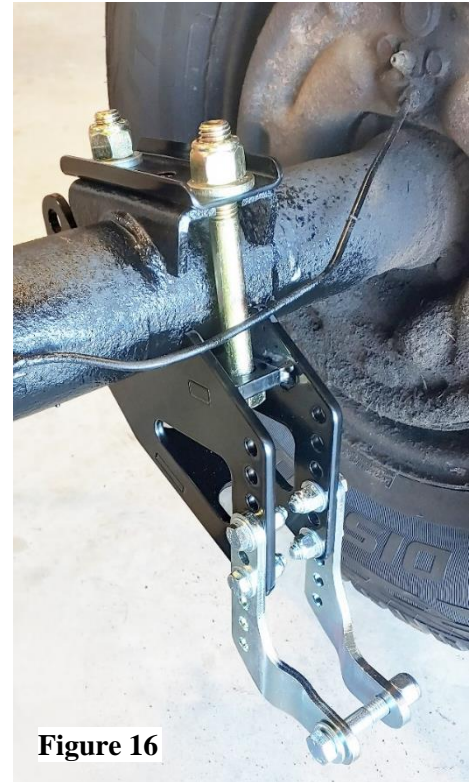

Figure 16
23. Install the left and right shock mount onto each axle mount using 5/8" x 5.5" hardware. **(Figure 16)** Torque to 90 lb. ft. (1/2" hardware will be used to install the coil-over shocks to the "L" brackets)
24. Install the left and right specific "L" shaped brackets onto the outside of each axle brackets so that the "L" brackets curve inward to the shock mount. **(Figure 16)** The "L" shaped brackets can be mounted on multiple holes of the axle bracket to adjust the vehicle ride height without adjusting the shocks. QA1 recommends using any height that the "L" bracket can be mounted with two bolts per bracket and with (minimum) one vacant hole in between the mounting bolts.